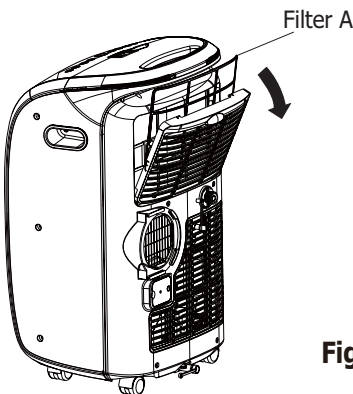
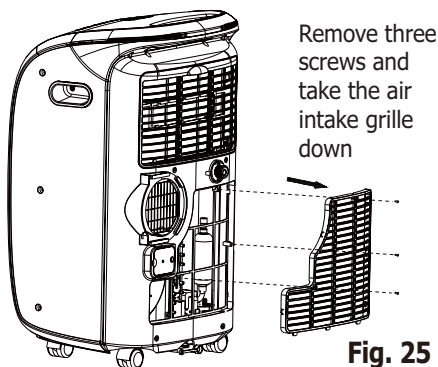

Fig. 24
Fig. 25
- This unit has two filters, they are filter A and B. Grasp the upper panel tab and take off the filter A which is behind the grill of the back panel (Fig.24). Remove the lower filter B by loosening the screws. Take down the air inlet grille, then remove the air filter as shown in Fig.25 & 26.